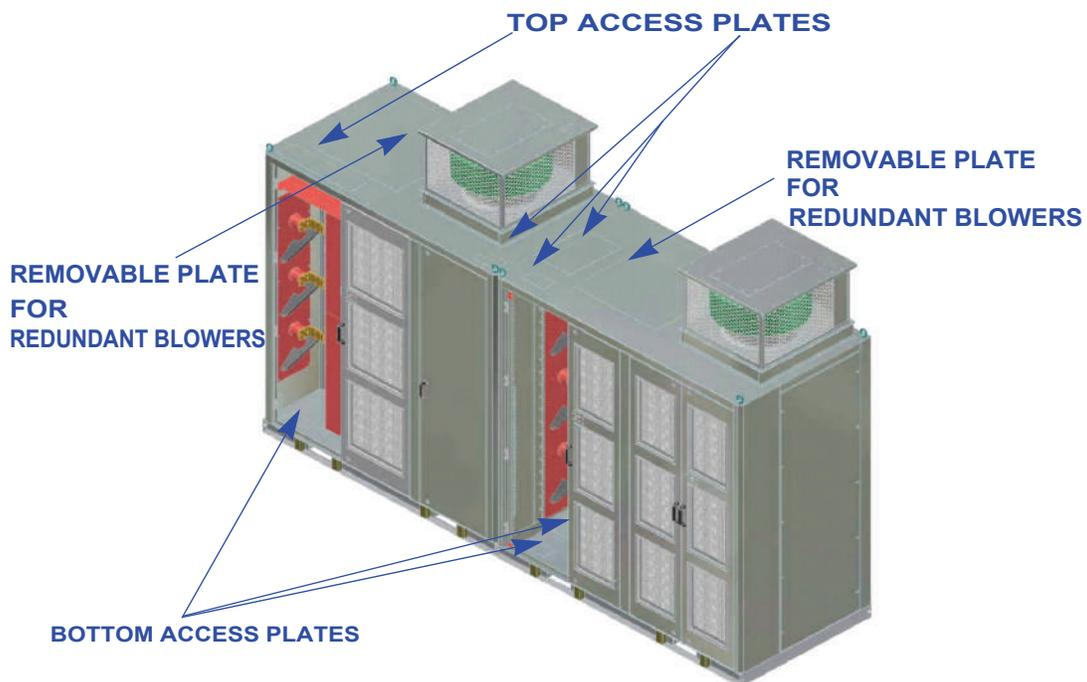

Figure 1-3: GenIV Enclosure (6600V Output, 300-3500 Hp)
- The remainder of the GenIV drive (refer to Figure 1-3).